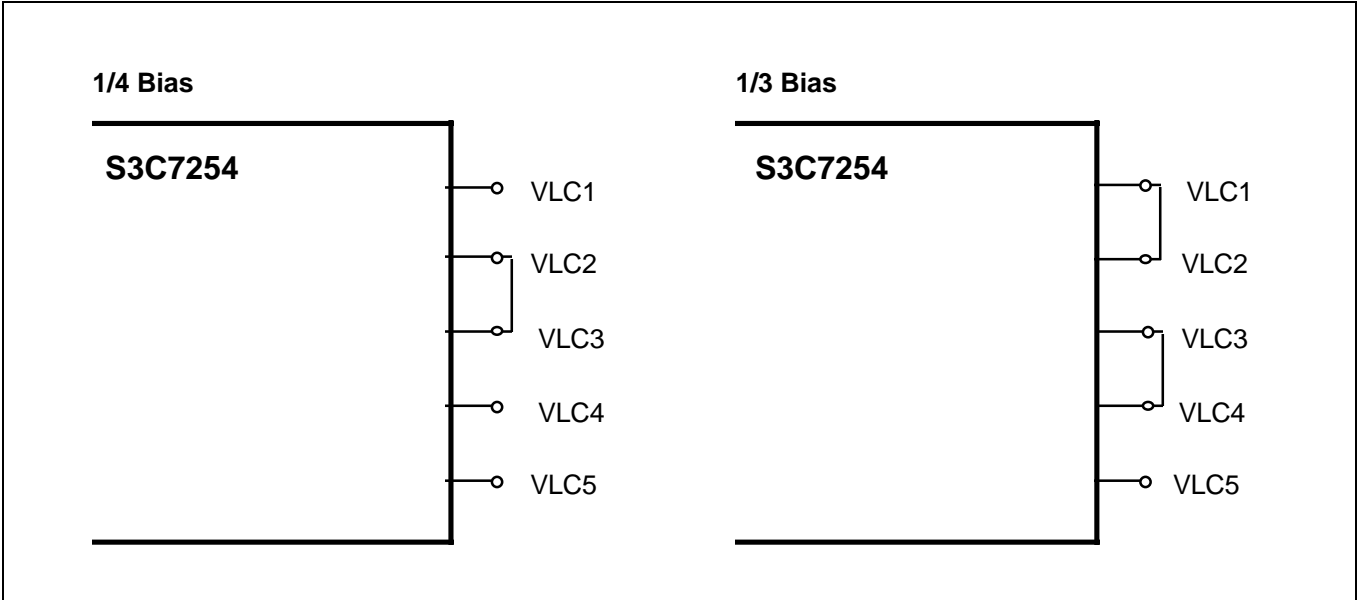

Figure 35. LCD Bias Circuit Connection
1. A 1/4 bias is assumed for the above circuits; a 1/3 bias is assumed for Figure 35.